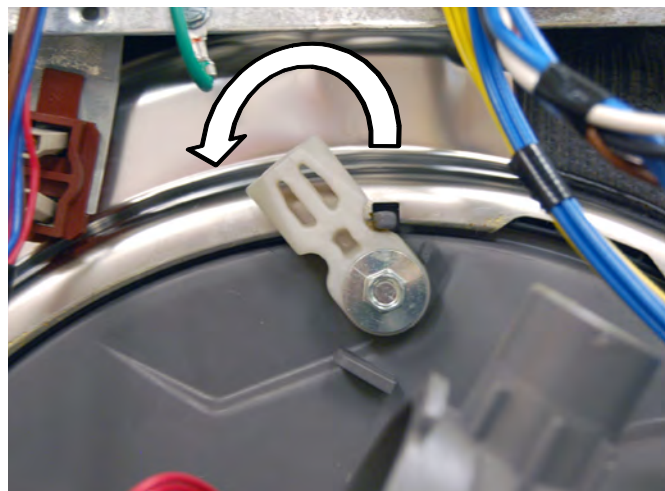

**Figure 7**
6. Remove the drain pump, see figure 7.